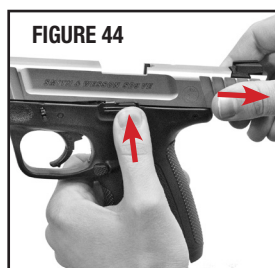

FIGURE 44
- Lock the slide in the open position by allowing the slide to move slightly forward from the rearmost position while pressing upward on the slide stop (FIGURE 44).